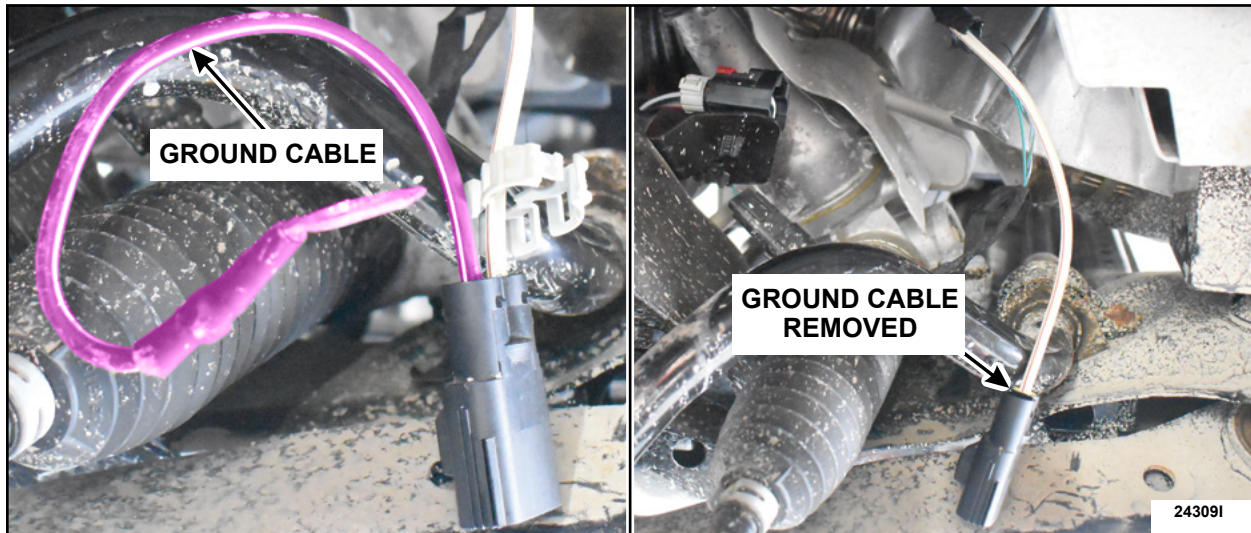

FIGURE 9
12. Release the terminal and remove the ground cable from the electrical connector. See Figure 9.